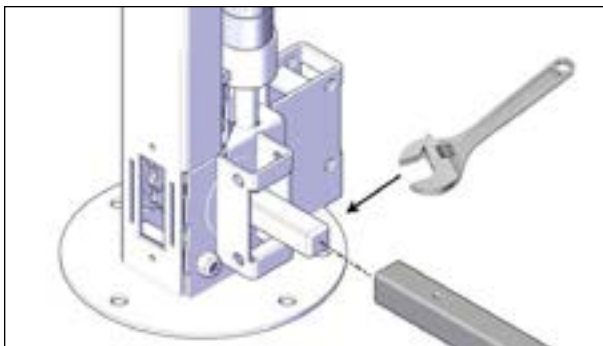

FIGURE 53: DRIVE SHAFT INSTALLATION
9. Hold the left-hand non-motor-side jack assembly upright and in line with the left drive shaft. Use a 3/4" adjustable wrench to carefully rotate the square shaft of the jack to align with the drive shaft Figure 53.